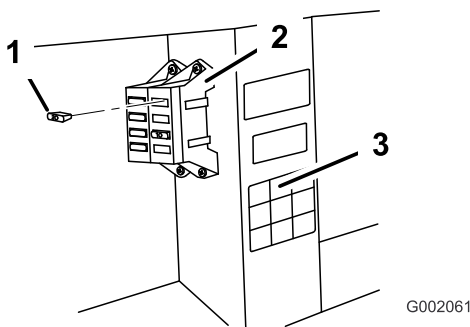

Figure 27
6. Insert the 15-amp fuse in the top slot in the fuse block. Make sure the corresponding wire in the fuse block is connected to the red/black wire in the harness (Figure 27).